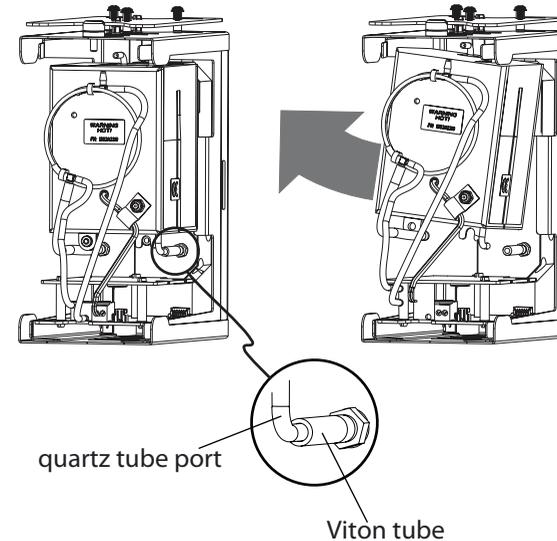

Figure 10: Disconnecting the lower Viton tube
- Disconnect the lower Viton tube from the quartz tube port. (If necessary, swing the heater unit as shown in Figure 10.) Discard the old Viton tube.